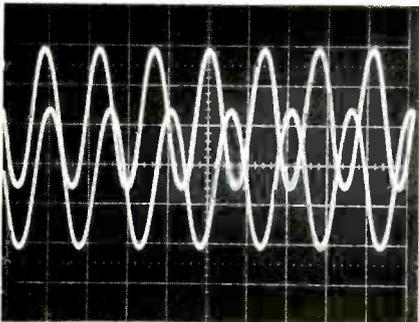
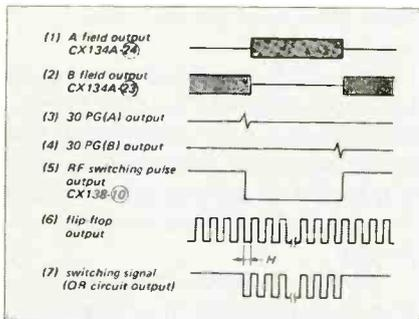
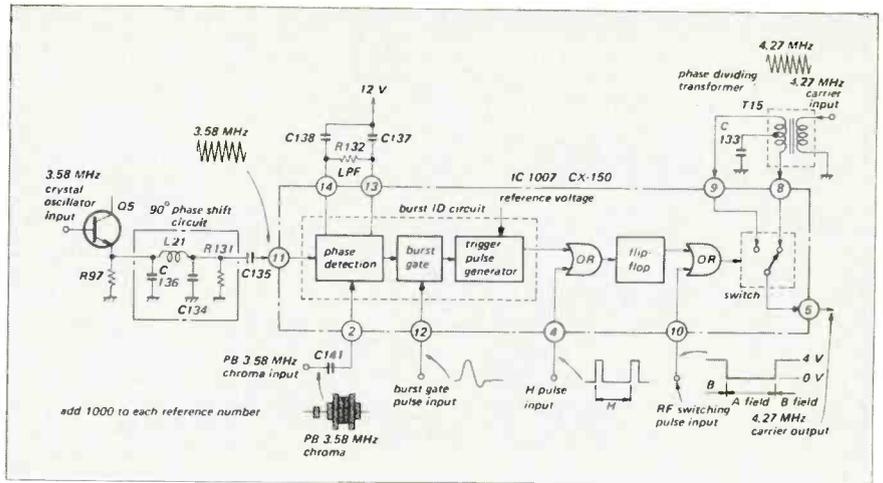

Fig. 13 Correct phase relationships at pins 8 and 9 of IC1007
Fig. 14 The OR gate waveforms
Fig. 12 Block diagram of IC1007
IC1007, shown in the Figure 12 block diagram, contains a carrier signal phase
The carrier phase inverter consists of a flip-flop and switching circuit. A 4.27 MHz Carrier signal is phase-split by the phase-splitter transformer T15. The output from the secondary of T15 is fed to the switching circuit via pins 8 and 9. The normal phase 4.27 MHz carrier is fed to pin 8 and the out of phase carrier to pin 9. The dual-trace scope probes can be connected to pins 9 and 8 of IC1007 to check on the 4.27 MHz signal and for the phase shift from T15. The dual-trace waveforms in Figure 13 show the normal signals found at pins 9 and 8. Note the phase shift. The switching circuit is driven by the flip-flop output and the RF switching pulse, both of which are fed to the switcher through an OR gate. As you will note in Figure 12, the flip-flop is triggered by a horizontal pulse and toggles at the horizontal rate. The output of this flip-flop and the 30 Hz RF switching pulse are applied to the OR gate. The output of the gate is waveform (7) in Figure 14. The 4.27 MHz carrier output from pin 5 is fed to the chroma frequency converter circuits of the record and playback systems. Check with the scope at pin 5 for the 4.27 MHz signal to see if the IC switch is working properly.